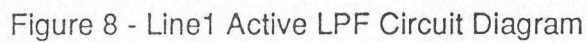

Figure 8 - Line1 Active LPF Circuit Diagram
- Figure 8 Keyboard Circuit Diagram